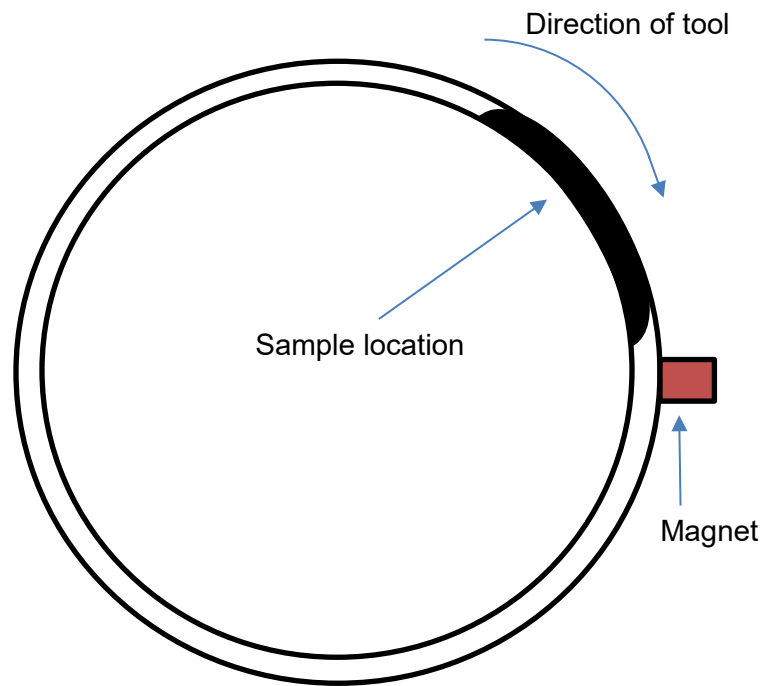

Figure 1 – Burr test procedure diagram
9. Using the die grinder with the deburring tool attached, gently pass the tool circumferentially across the prepped area carefully trying to direct the removed burr samples towards the magnet (Figure 1). Use gentle pressure to avoid gouging the surface. Use the entire 4 inch by 6 inch area to ensure you collect enough sample material. Use the field scale to ensure a minimum of 3 grams of sample has been collected. This procedure should remove approximately 0.005 inches of additional material from the pipe wall thickness.